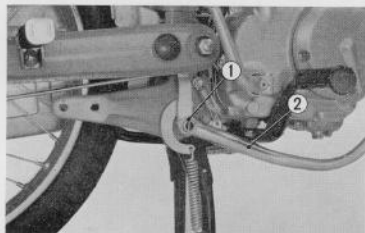

Fig. 4.61 Removing 3 mm cotter pin.
- (3) Remove the 3 mm cotter pin (1) from the rear brake pivot pipe (Fig. 4.61)
- (4) Remove the rear brake adjusting nut and remove the brake rod from the rear brake arm.